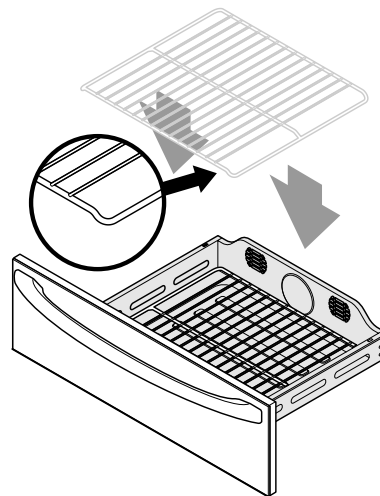

Fig. 1
- The lower oven rack **must always be in place when cooking or warming.** Be sure that the rack is placed with the down turned sides into the drawer -Fig. 1-. This will provide for some air space between the drawer and the food.